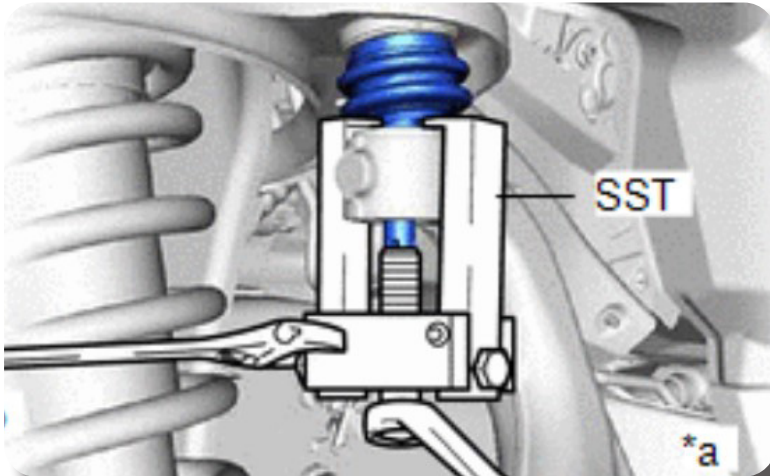

Figure 10
14. Use the recommended tool SST: 09628-62011 to dislodge the UCA from the knuckle. Fig. 10